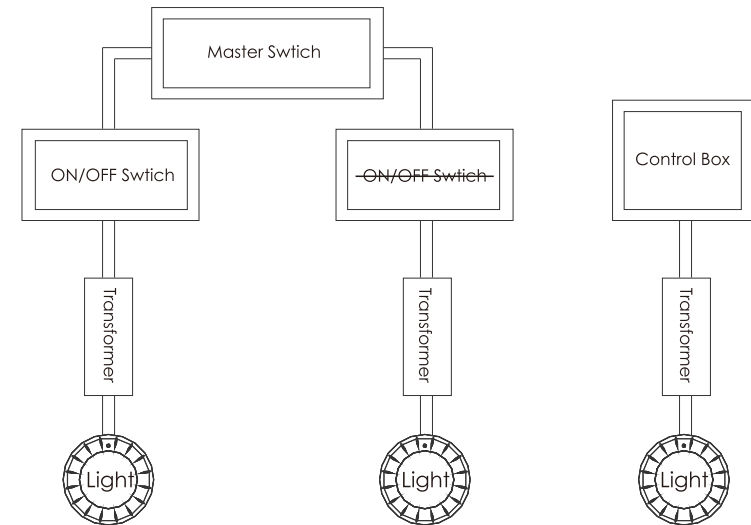

Figure 1
- 1) When the light is connected to the transformer directly, the on/off switch controls the color changes (Associating a light with a transformer and an on/off switch is recommended; If you want all the lights to change color at the same time, install a master switch, Figure 1).
- 1) 水灯直接接变压器, 根据开关来实现以上颜色变化。我们建议一个水灯配一个变压器, 装一个开关; 如果想所有的灯同时变化颜色, 就在所有开关的前面装一个总电源开关。(如图1)